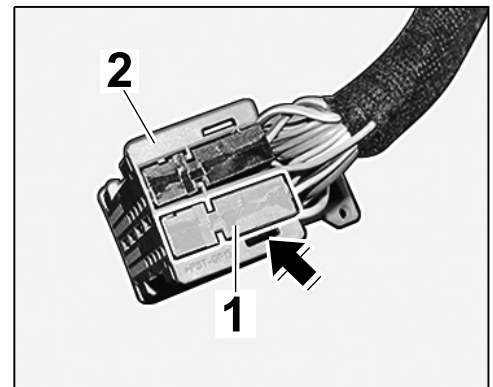

Figure 37
- 4.6.8 Slide grey plug socket ⇒ *Figure 37 -1-* into the plug carrier ⇒ *Figure 37-2-* until the locking mechanism ⇒ *Figure 37-arrow-* engages.